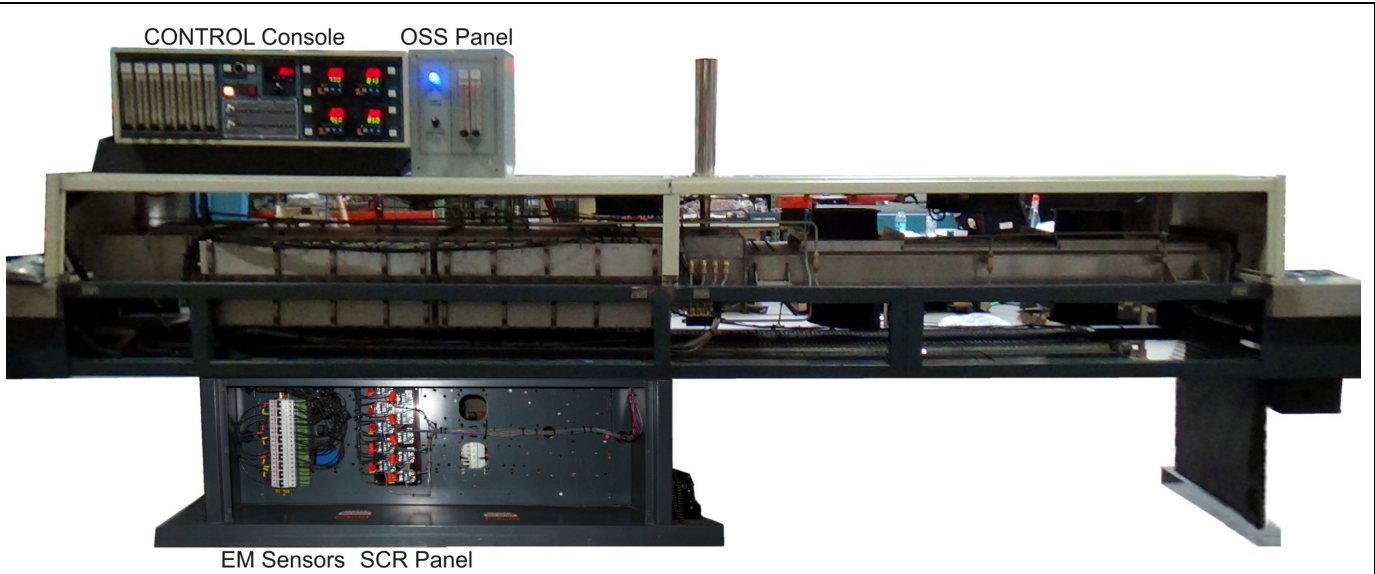
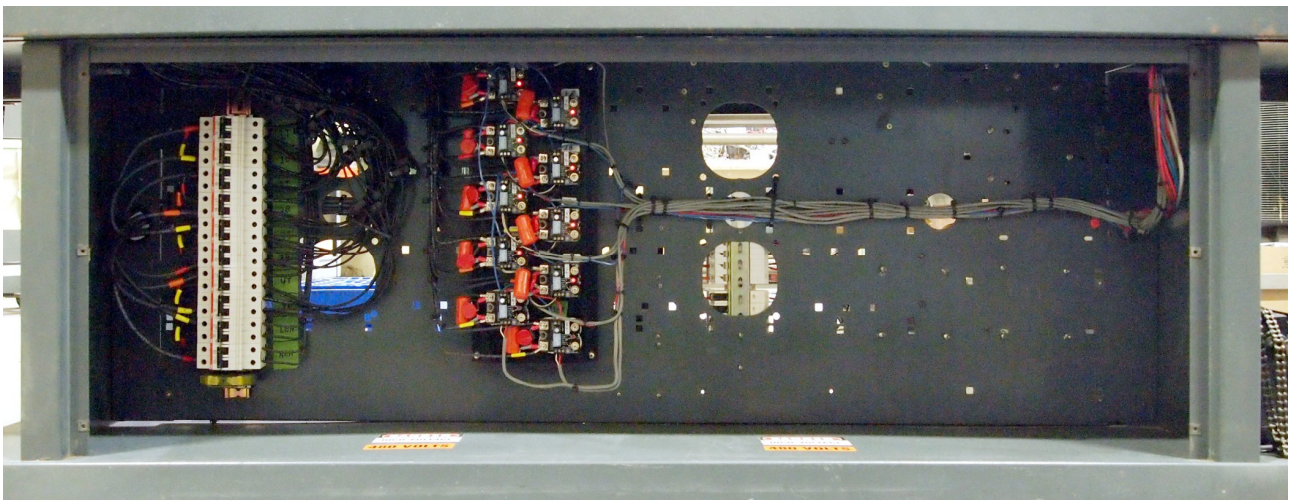

Figure 4-5 Front with Side Panels removed
Figure 4-9 SCR Panel with EM sensors
**SCR panel** – Contains the SCR power controllers, solid state switches and firing boards, that manage power to the lamps using signals from the furnace controller. Located next to PLC panel on front side (Figure 4-5 and Figure 4-9).
**EM Sensors** – Element monitor sensors are current detection devices for determining integrity of lamp heater strings. These sensors and transfer current signal from sensors to EM display panel on Furnace Console. Located near SCR panel on return lines from lamp strings (Figure 4-5 and Figure 4-9).